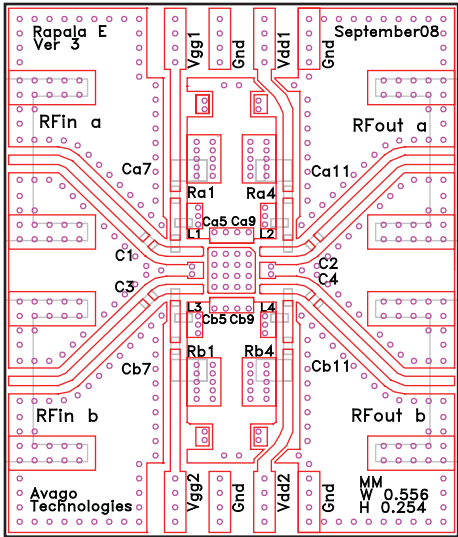

Figure 5. Demo Board Layout Diagram
RF performance at $T_A = 25^\circ\text{C}$, $V_{dd} = 5\text{V}$, $I_{dd} = 50\text{mA}$, 850MHz and 900MHz given for each RF channel, measured on demo board in Figure 5 with component list in Table1 for 850 MHz matching.
7. Measurements at 850 MHz and 900 MHz are obtained using demo board described in Figure 5.
RF performance at $T_A = 25^\circ\text{C}$, $V_{dd} = 5\text{V}$, $I_{dd} = 50\text{mA}$, given for each RF channel, measured on demo board in Figure 5 with component list in Table 1 for 850 MHz matching. IIP3 is measured with input power of -15dBm per tone.
RF performance at $T_A = 25^\circ\text{C}$, $V_{dd} = 5\text{V}$, $I_{dd} = 50\text{mA}$, given for each RF channel, measured on demo board in Figure 5 with component list in Table 1 for 850 MHz matching.